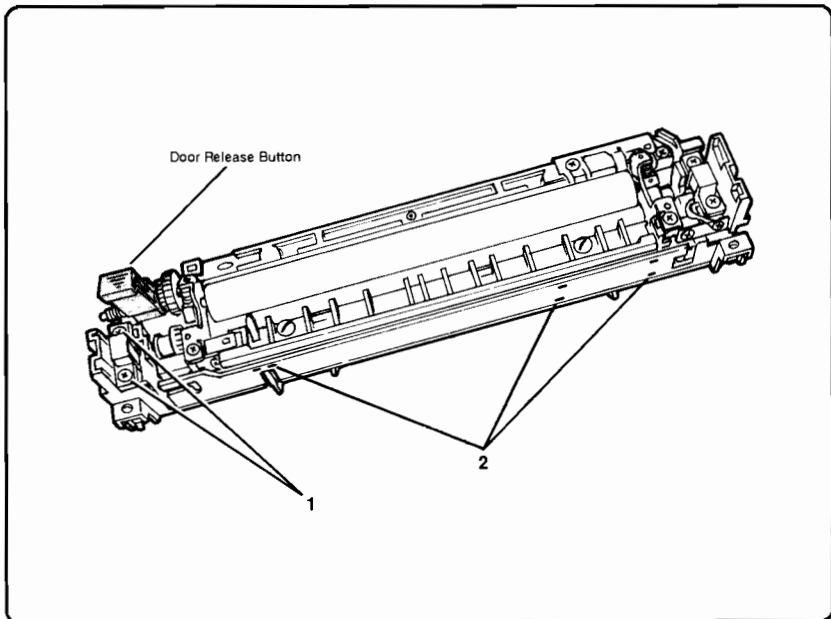

Figure 6-64. Thermistor (TH1) Removal
2. Remove the shoulder screws (2) securing connector J502 (see Figure 6-64, callout 1).
3. Remove the Fusing Assembly Wire Cover by unclipping it using a small flat-head screwdriver (see Figure 6-64, callout 2).